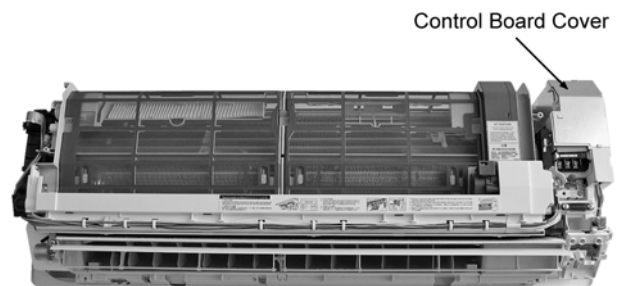

Fig. 3
6. Remove the Control Board Cover. (Fig. 3)